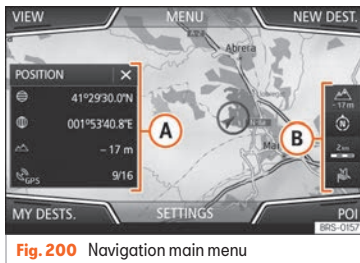

Fig. 200 Navigation main menu
VIEW: To modify or activate or deactivate the split screen and show POI ►► **Fig. 200 (A)** ►► **page 204.**
SETTINGS: Open the **Navigation Settings** menu »» **Fig. 200**.